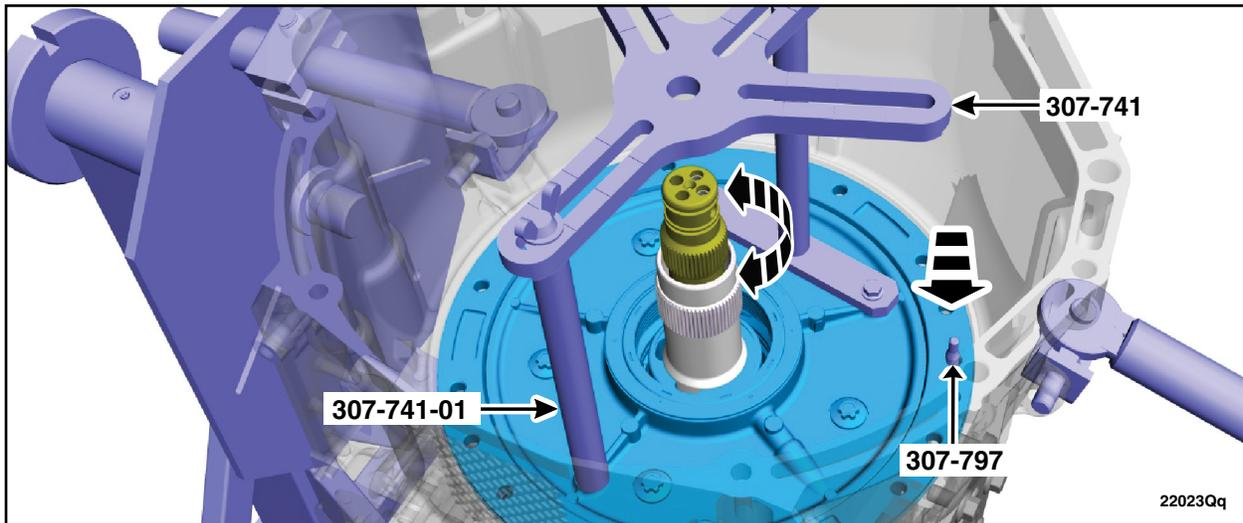

FIGURE 52
61. Using the Special Service Tool: 307-797 Installer, Alignment Studs (3) & Alignment Pin (All 10R), install the front support into the transmission case. Rotate the input shaft while aligning the front support to the special tool guide pin. See Figure 52.